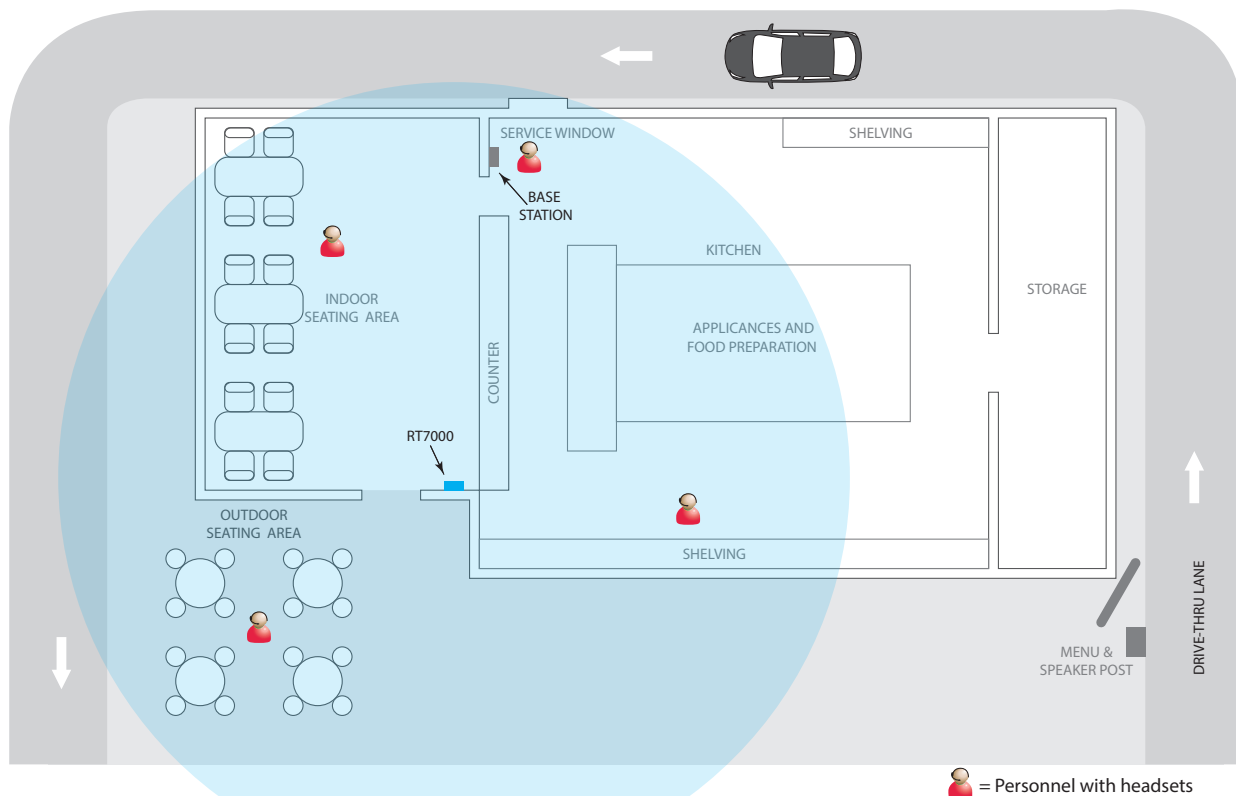

Fig. 2.10
- Finding a good location for the remote transceiver is critical (see Fig. 2.10, and 2.11). Also read about the “Remote Transceiver (RT7000)” on page 14 under Component Notes and review the Critical Steps in these following instructions.